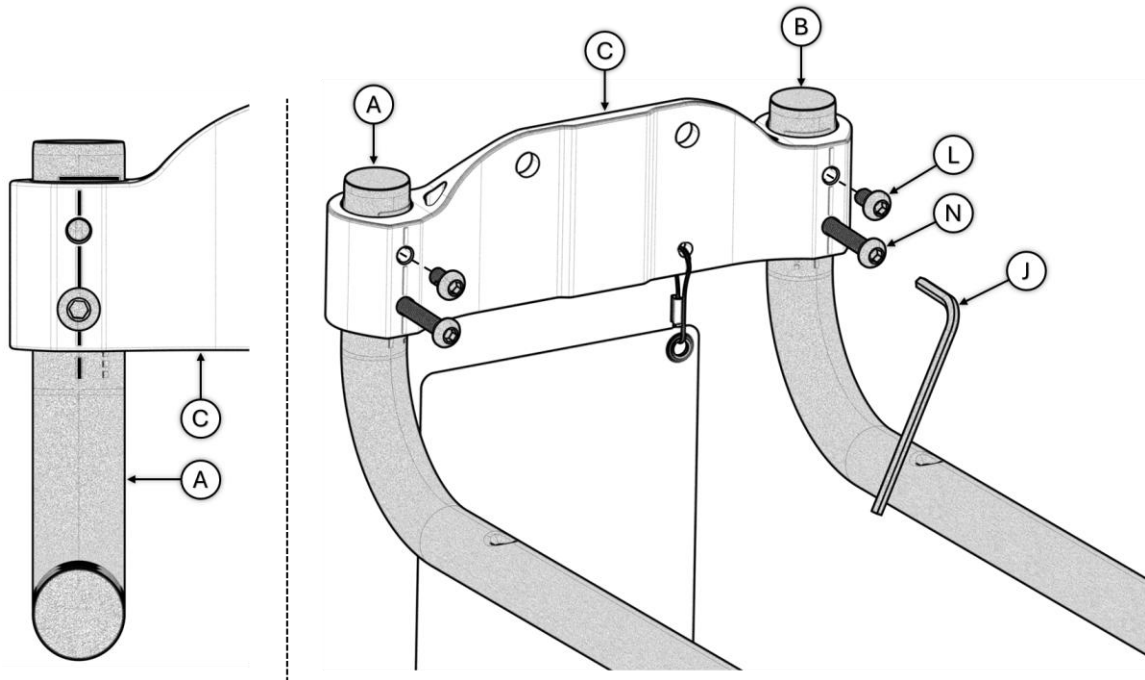

FIGURE 5
5. Insert Leg **A** into Bracket **C**. Align the top edge of Bracket **C** with horizontal line on Leg **A**. Align holes on Bracket **C** with the solid vertical line on Leg **A**, as shown in *FIGURE 5*. Screw Bolt **N** through hole and tighten firmly with Tool **J**. Insert Bolt **L** into the **Upper** hole and tighten firmly. Repeat for Leg **B**. Legs should be parallel when assembled.